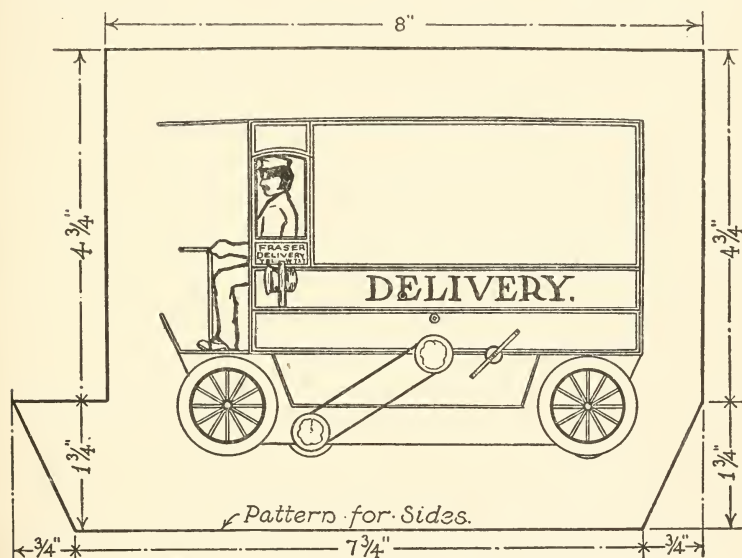

FIG. 175. — An Automobile Delivery Wagon.
**An Automobile Delivery Wagon**, such as illustrated in Fig. 175. To make this you will require the same frame as that used for the touring-car, with the clockworks and belt-wheels attached in the same manner. If you have made the touring-car, remove the cardboard sides from its wooden frame, separating the cardboard from the wood carefully so you can put the machine together again when you wish. If you haven't made this automobile, you will find the details for the construction of the frame in Figs. 161 and 162, and the manner of performing the work described on pages 104 to 107.
but little cutting. The outline for these is shown in Fig. 175, surrounding the drawing of the completed wagon. Lay out one side upon a piece of cardboard, using the dimensions given upon the drawing, and then place it upon a board and cut it out with your knife. Using this as a
Make the floor and footboard for the wagon out of a piece of cardboard bent as shown in Fig. 175, and fasten it across the top edges of the projecting portions of the sides with linen strips. Cut a strip for a seat, and fit it between the sides an inch and one-half above the floor.